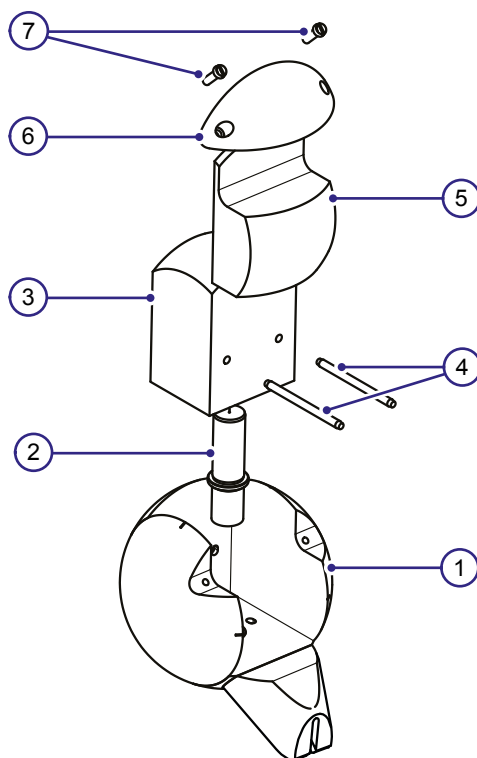

Figure 1.5 Exploded view of the Dosimetry Phantom with ionization chamber
- 1 Insert the ion chamber housing (2), with the shorter section first, into the hole at the bottom of the phantom base (1), see Figure 1.5. Push the ion chamber housing as far in as possible.
- 3 Put the ion chamber clamp (3) on the ion chamber housing (2), see Figure 1.5. Make sure that the ion chamber clamp is tightly attached.
- 4 Insert the two film holder align rods (4) into the holes in the ion chamber clamp. Push the rods as far as possible into the ion chamber clamp.
- 5 Attach the upper film holder (5) on the ion chamber clamp.
- 6 Attach the front clamp (6) on the phantom base, and tighten the screws (7). Tighten the screws alternately.